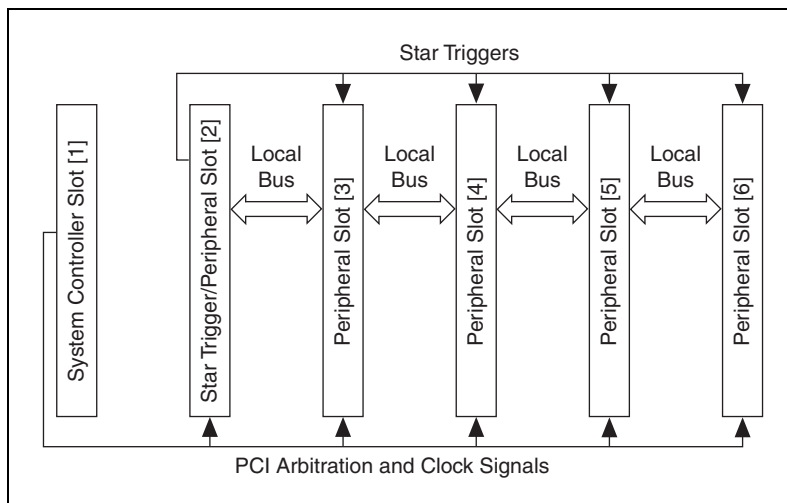

Figure 1-5. PXI Star Trigger and Local Bus Routing
The star trigger (ST) slot is slot 2. This slot has dedicated equal-length trigger lines between slot 2 and peripheral slots 3 through 6 (refer to Figure 1-5). Slot 2 is intended for modules with ST functionality that can provide individual triggers to all other peripheral modules. However, if you do not require advanced trigger functionality, you can install any standard peripheral module in this slot.
The PXI backplane local bus is a daisy-chained bus that connects each peripheral slot with adjacent peripheral slots to the left and right (refer to Figure 1-5). For example, the right local bus of slot 2 connects to the left local bus of slot 3, and so on.